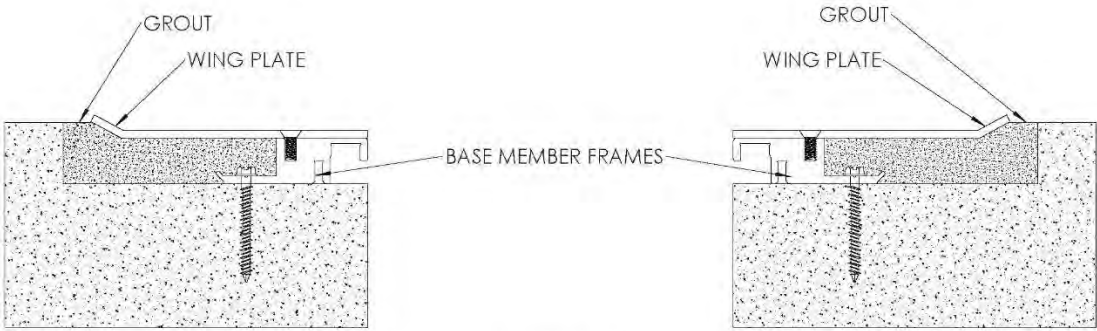

FIGURE 4
- 4. Protect the exposed surface of the expansion joint, grout in the blockout level with the surrounding floor. **See Figure 4**